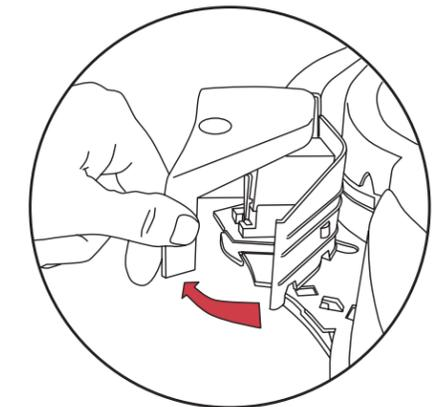

Figure 3. Separating the Printer Cover from the Left Access Door
3. Open the Printer/Cartridge Cover by pulling the Cover from the Left Door as shown in Figure 3.